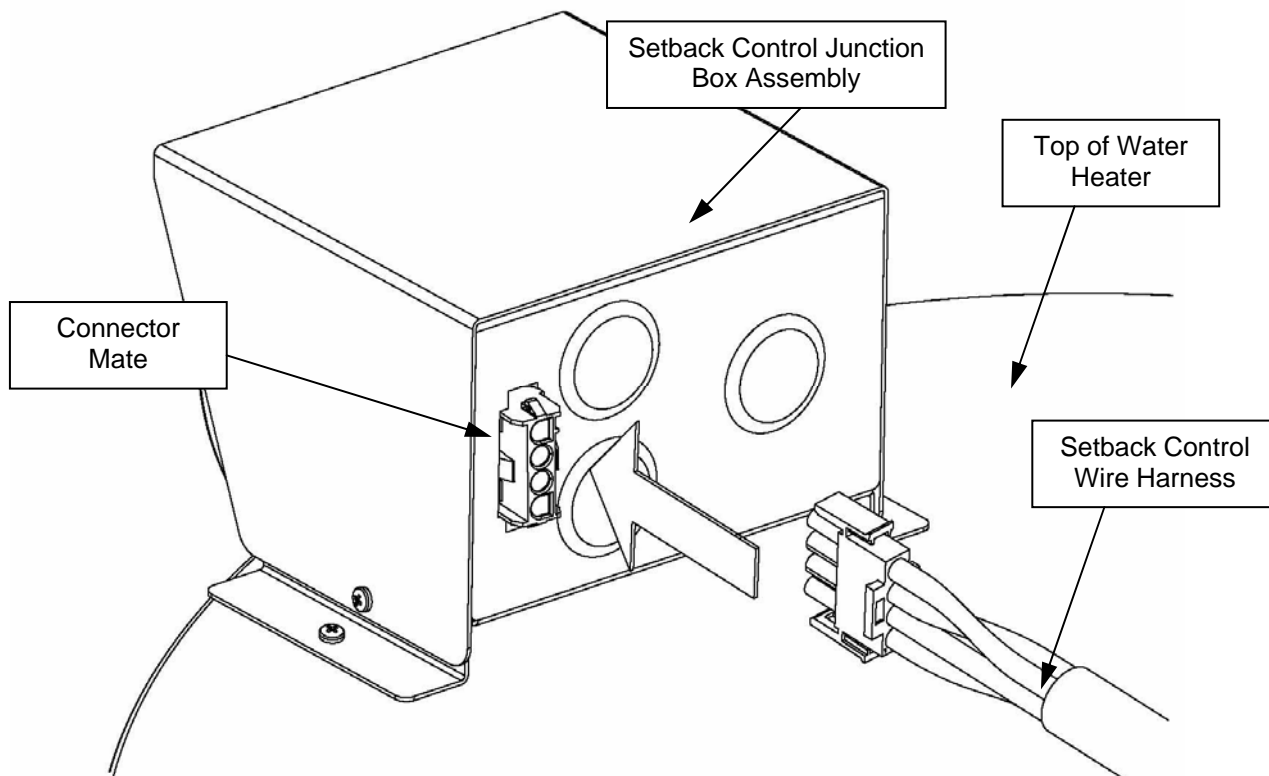

Figure 41
Step 14: Take the plastic connector end of the Setback Control wire harness, and connect it to its connector mate in the back of the Setback Control Junction Box Assembly. This is shown in Figure 41.